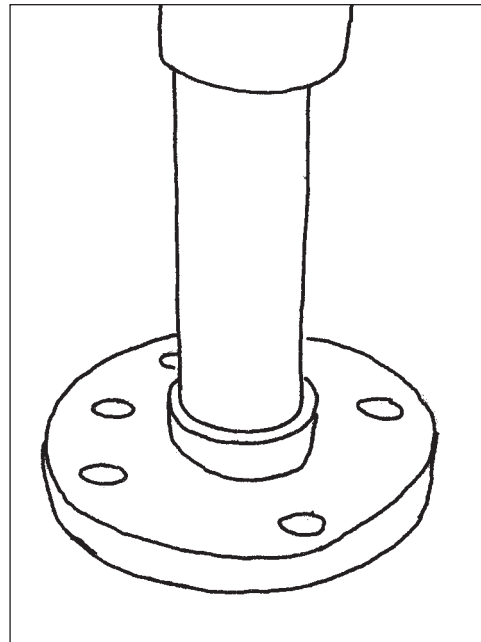

Figure 12
8. Using a suitable size socket and short extension, press the oil seal out of the bearing cap cover. Discard the seals. (**Figure 12**).